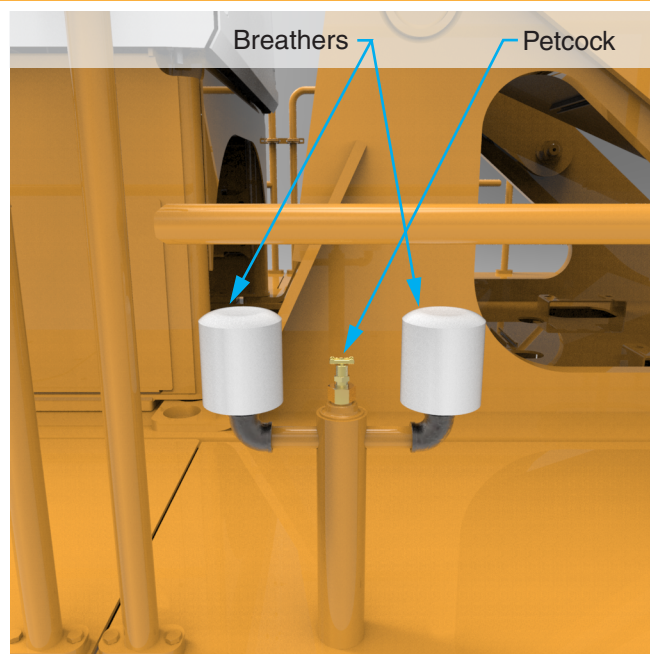

Figure 18 Hydraulic Tank Breathers
3. Relieve pressure in the tank by opening the petcock between the breathers. See Figure 18.